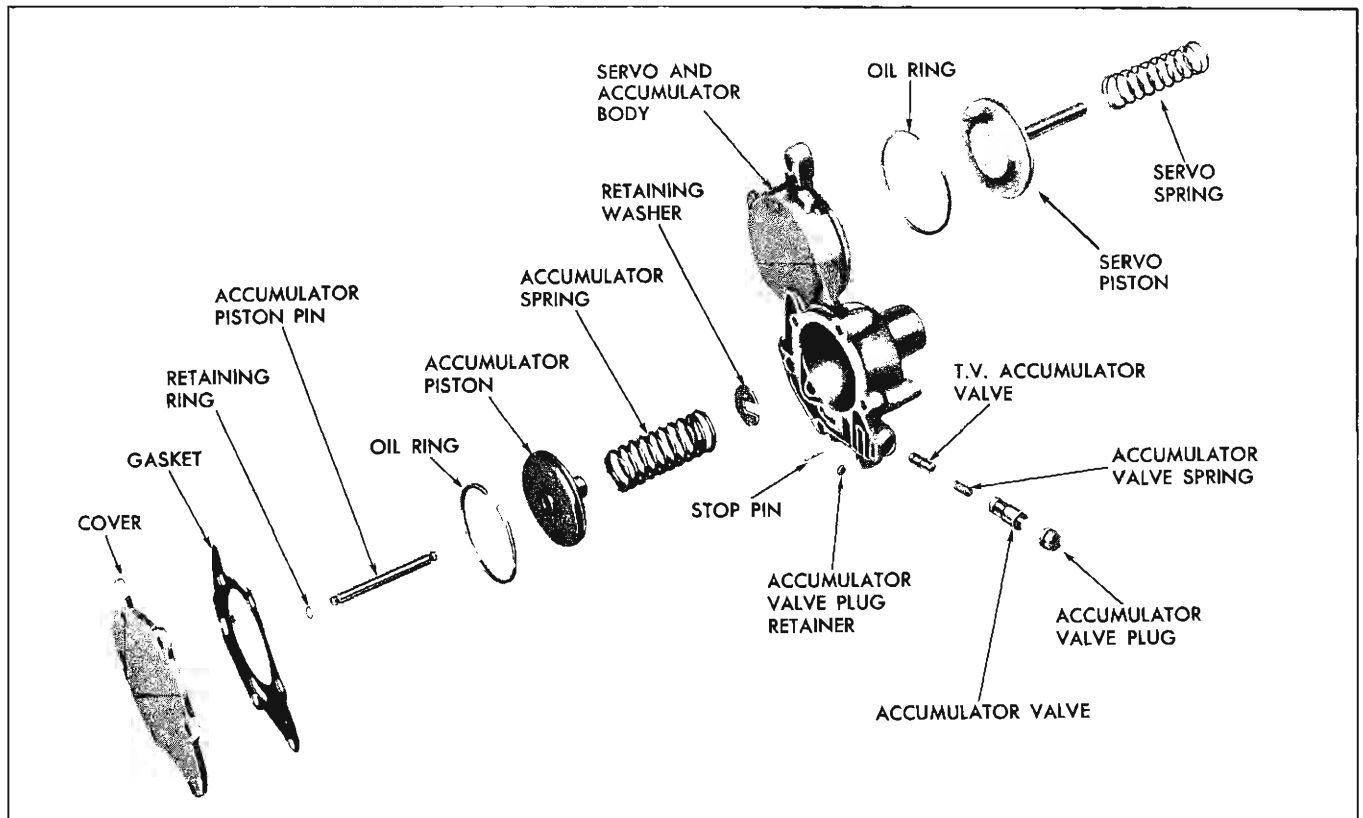

Fig. 7D-132 Servo and Accumulator—Exploded
3. Inspect accumulator body for restricted passages (Fig. 7D-133), scores or burrs.